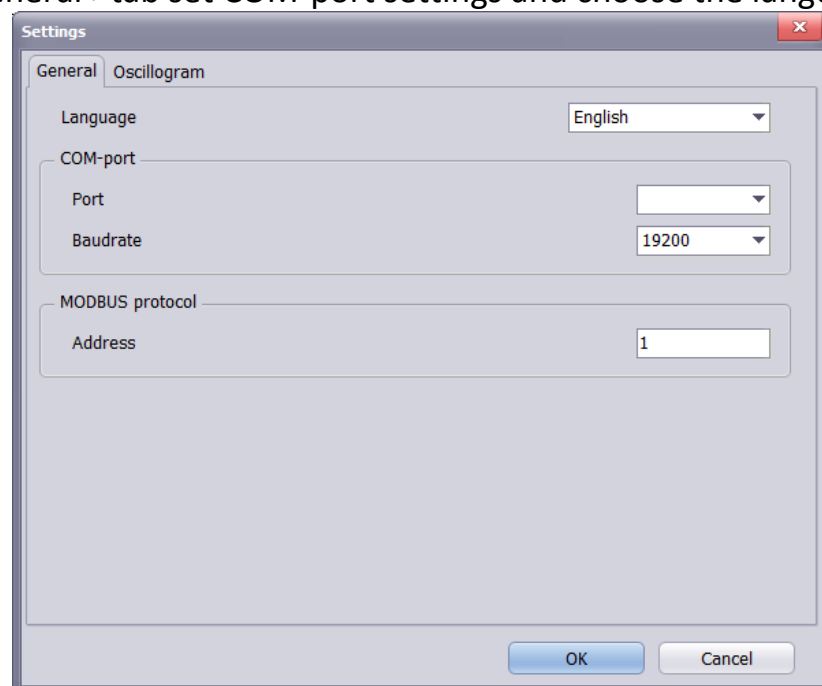

Fig. 3.3
3.3.3 At «General» tab set COM-port settings and choose the language, fig. 3.3